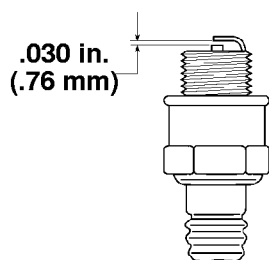

Figure 18
- Set air gap at .030" (0.76 mm) (Fig. 18). Install correctly gapped spark plug and gasket seal. Tighten plug firmly to 15 ft-lb (20 N·m).